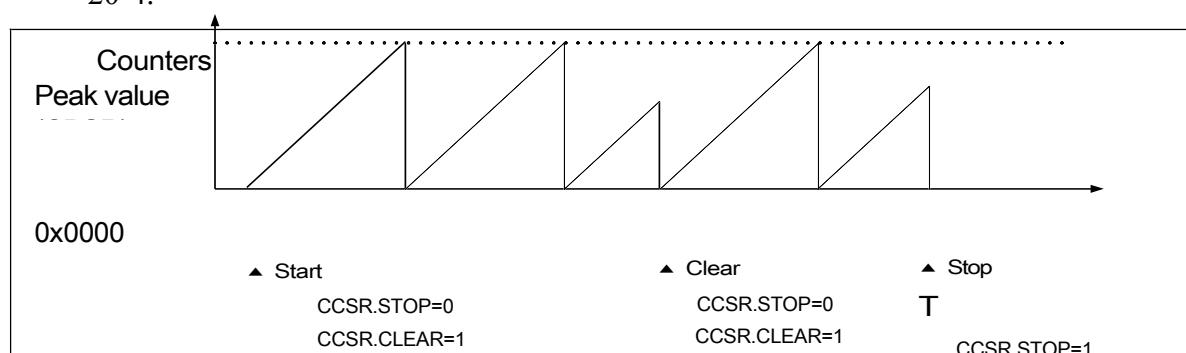

Figure 20-4 Timer4 Ramp Pattern Counting Action
- 1) The operation and control flow of the sawtooth wave counting is shown in Figure 20-4.